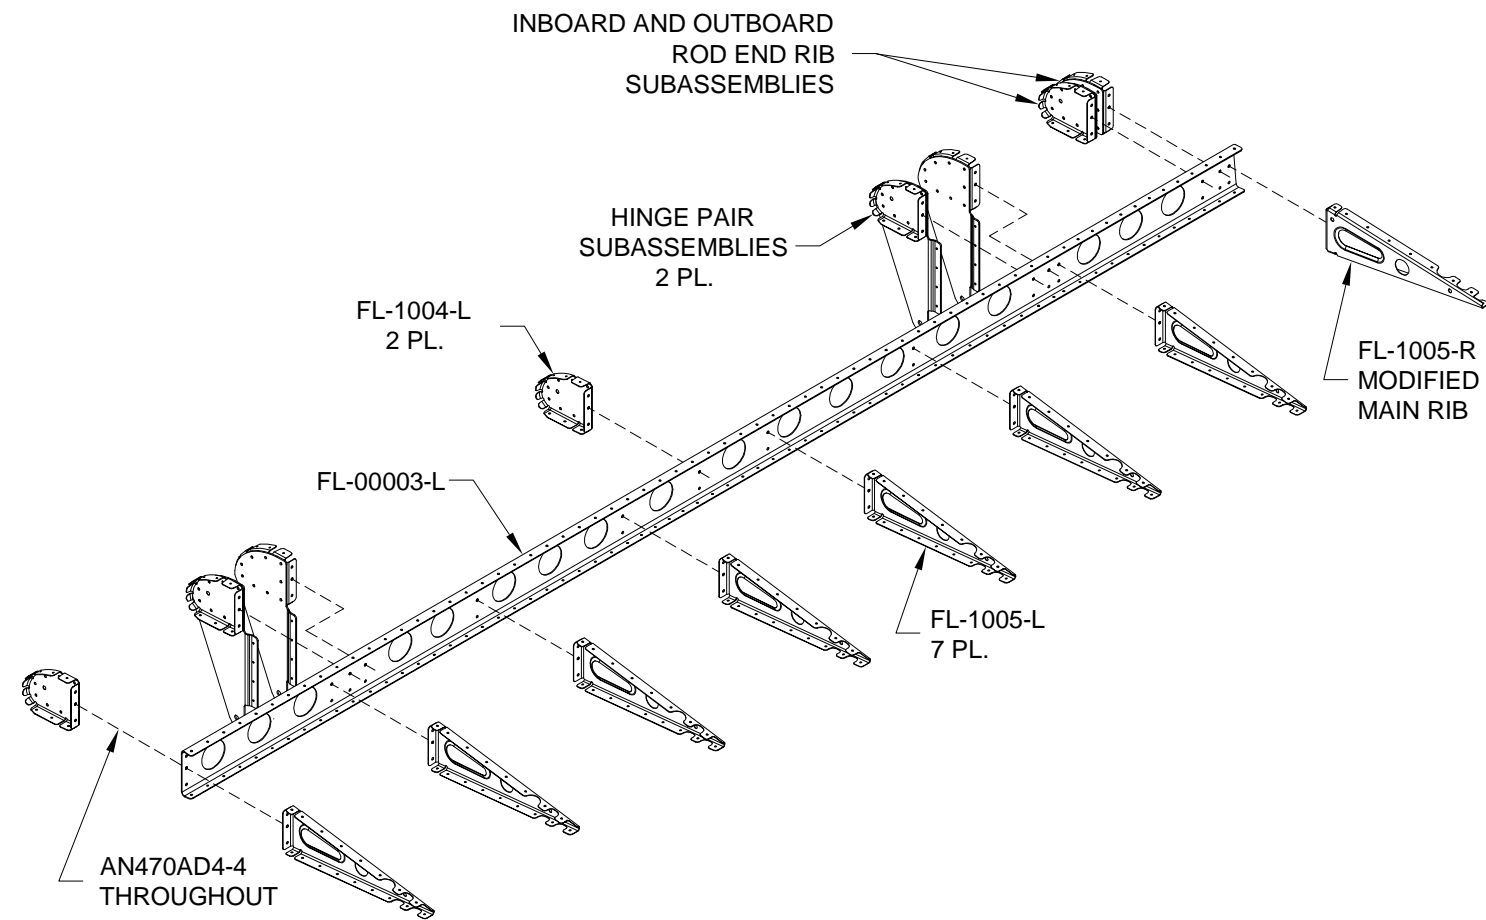

FIGURE 1:
Step 1: Assemble the flap by riveting the FL-1004-L Nose Ribs, FL-1005-L Main Ribs, and FL-1005-R Modified Main Rib, Inboard and Outboard Rod End Ribs, and Hinge Pair Subassemblies to the FL-00003-L Spar using the rivets called out in Figure 1.
(ALSO SEE PAGE 21-04, FIGURE 1)